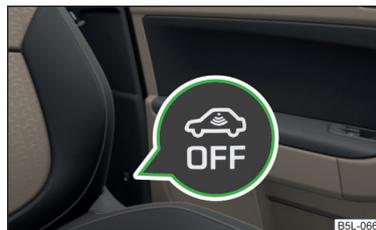

Fig. 38
- › Press the symbol button  » Fig. 38 on the B column of the driver's side.